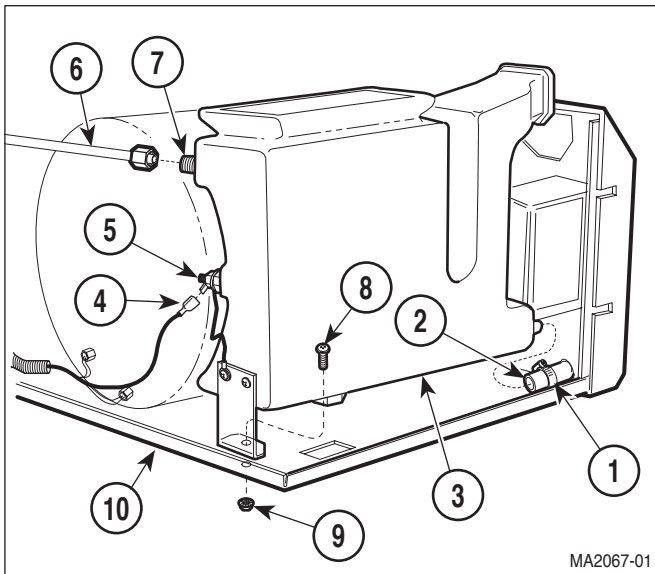

Figure 4-25. Condensing Tank Assembly Removal / Installation
- (8) Loosen hose clamp (1, Figure 4-25) and remove sight/drain tube (2) and hose clamp from condensing tank assembly (3).
- (1) Position condensing tank assembly (3, Figure 4-25) on base (10) and secure using screw (8) and locknut (9).
- (2) Connect vent tube (6) to fitting (7).